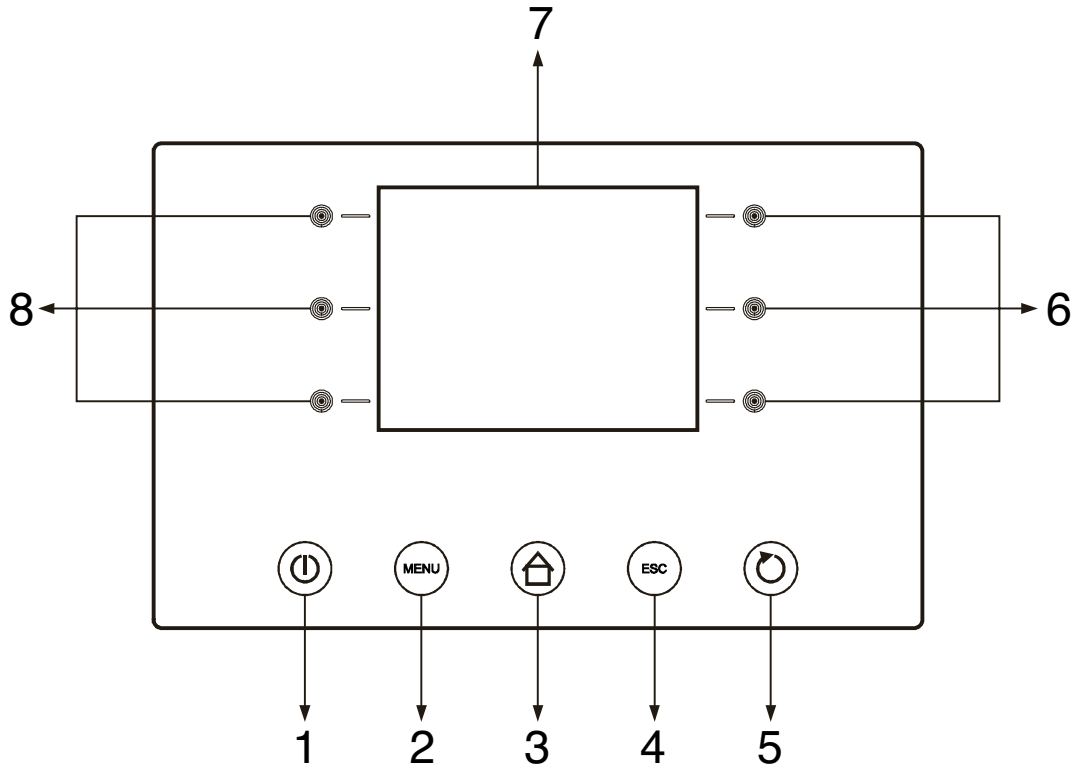

Fig.3
9.1 Description of the controls and buttons (Fig. 3)
**9.2.2 Internal Clock setting: Set date and present time (fig.3)**
### 9.2.3 Language setting (fig.3)